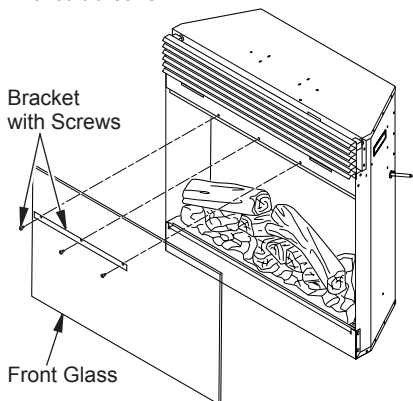

Figure 8 - Removing Bracket and Front Glass
3. Carefully remove front glass (see Figure 8, page 9).
2. With gloves and safety glasses in place, remove screws and bracket holding front glass in place. Remove glass and set aside carefully (see Figure 8).